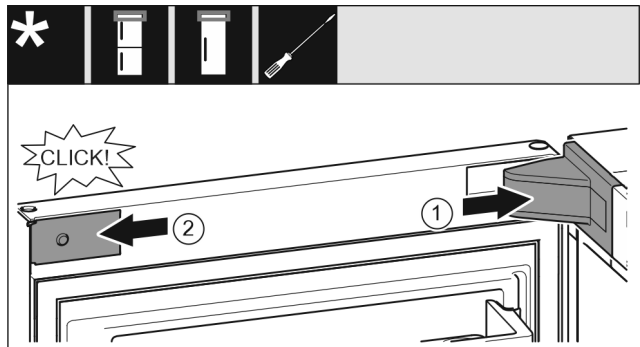

Fig. 20
- ▶ Position the bearing bracket and latch it in place. If necessary push it apart carefully. Fig. 20 (1)
- ▶ Position the panel on the side and latch into place. Fig. 20 (2)